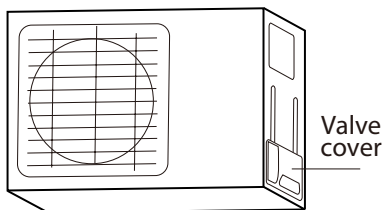

FIG. 5.9
- 1 Unscrew the cover from the packed valve on the side of the outdoor unit. (See FIG. 5.9)